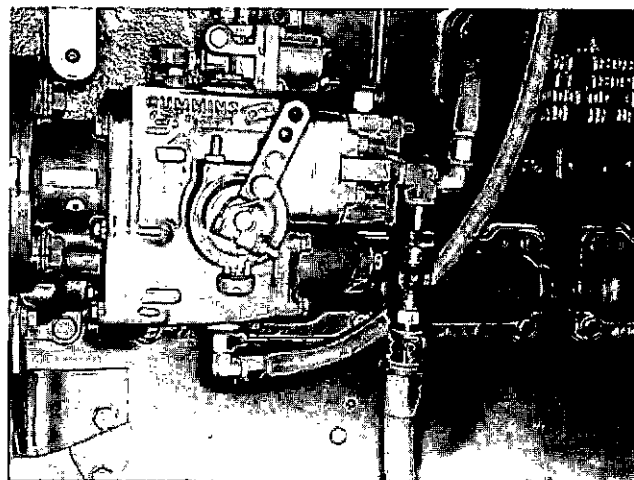

Fig. 5-2, N11964. Checking air leaks with ST-998 Sight Gauge
2. If there are indications of air leaks on suction side of fuel pump, check for air leaks by placing ST-998 Sight Gauge (1, Fig. 5-2) in the line between fuel filter(s) and pump. Bubbles over 1/2 inch [12.70 mm] long or "milky" appearance indicates an air leak. Find and correct.